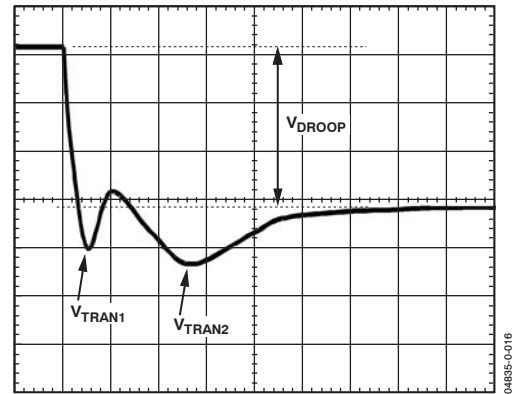
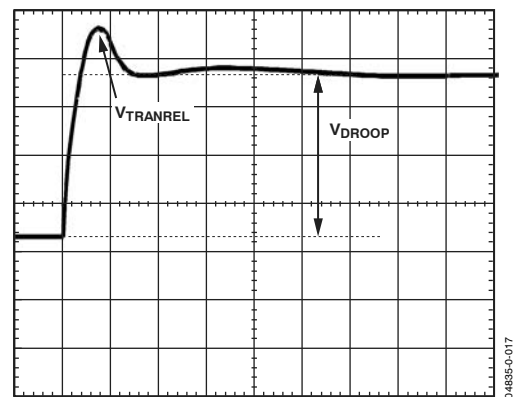

Figure 16. Transient Setting Waveform
Figure 17. Transient Setting Waveform
- With the dynamic load still set at the maximum step size, expand the scope time scale to see 2 $\mu\text{s}/\text{div}$ to 5 $\mu\text{s}/\text{div}$. The waveform may have two overshoots and one minor undershoot (see Figure 16). Here, V_{DROOP} is the final desired value.
- For load release (see Figure 17), if $V_{TRANREL}$ is larger than V_{TRAN1} (see Figure 16), there is not enough output capacitance. Either more capacitance is needed, or the inductor values need to be smaller. (If inductors are changed, start the design again using the spreadsheet and this tuning procedure.)